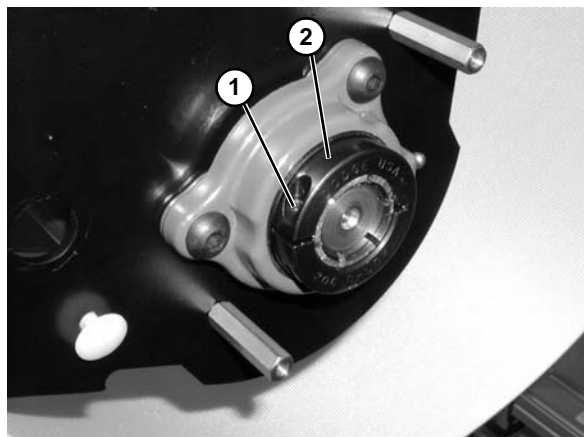

Figure 121
9. Loosen clamp screw (Figure 121, item 1) and remove bearing collar (Figure 121, item 2).